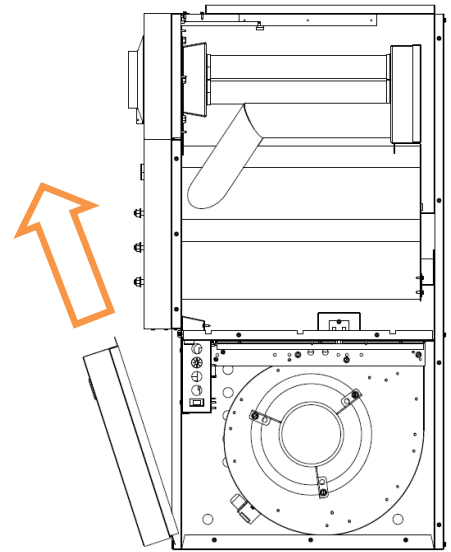

Figure 2
- 3) Open blower compartment (Figure 2).